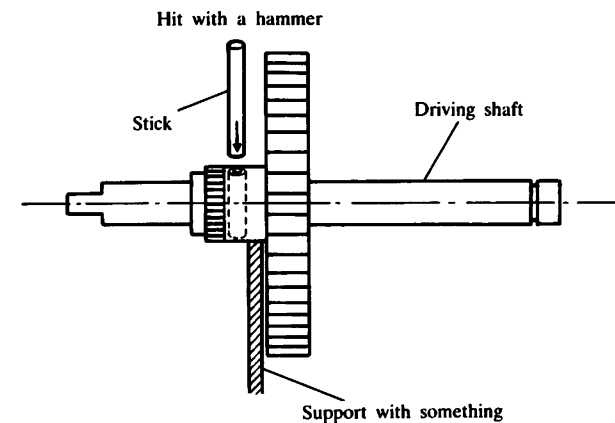

Fig. 53
- (1) Put the Gear 5 on the driving shaft and fix them with the spring pin. (AW4) (Refer to Fig. 53)